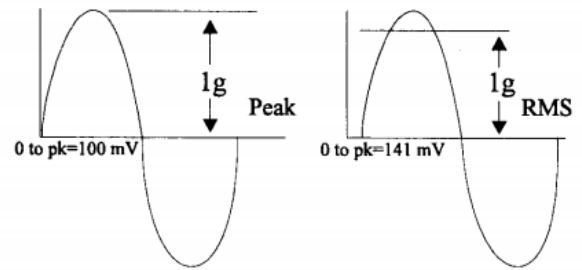

Figure 2: Peak vs RMS selection with a 100 mV/g accelerometer
- **Peak/RMS selection:** The shaker is capable of outputting 1 g in either RMS or Peak mode, per an internal switch setting. See Figure 2.